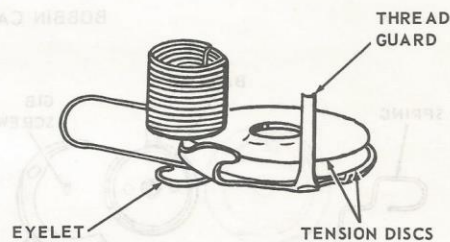

Fig. 32. Tension Disc Assembly
2. Place tension discs, with convex sides together, on thread guard as shown in Fig. 32.
3. Pass eyelet of take-up spring under thread guard, keeping coils of spring above tension discs as shown in Fig. 32.